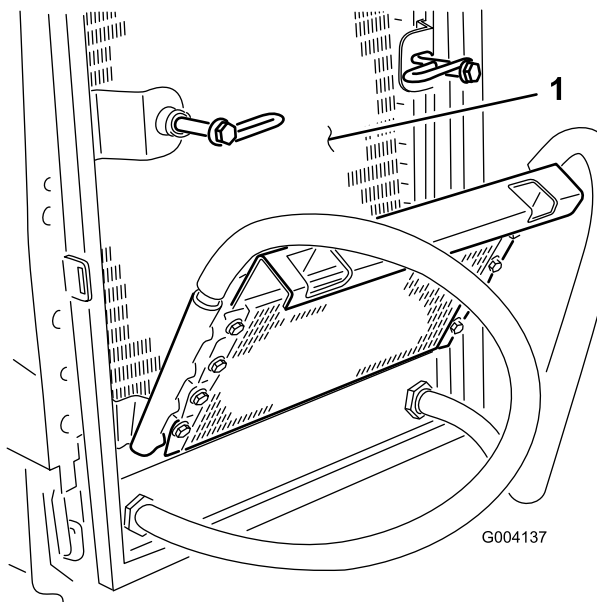

Figure 74
6. Thoroughly clean both sides of the oil cooler and the radiator (Figure 74) with compressed air.